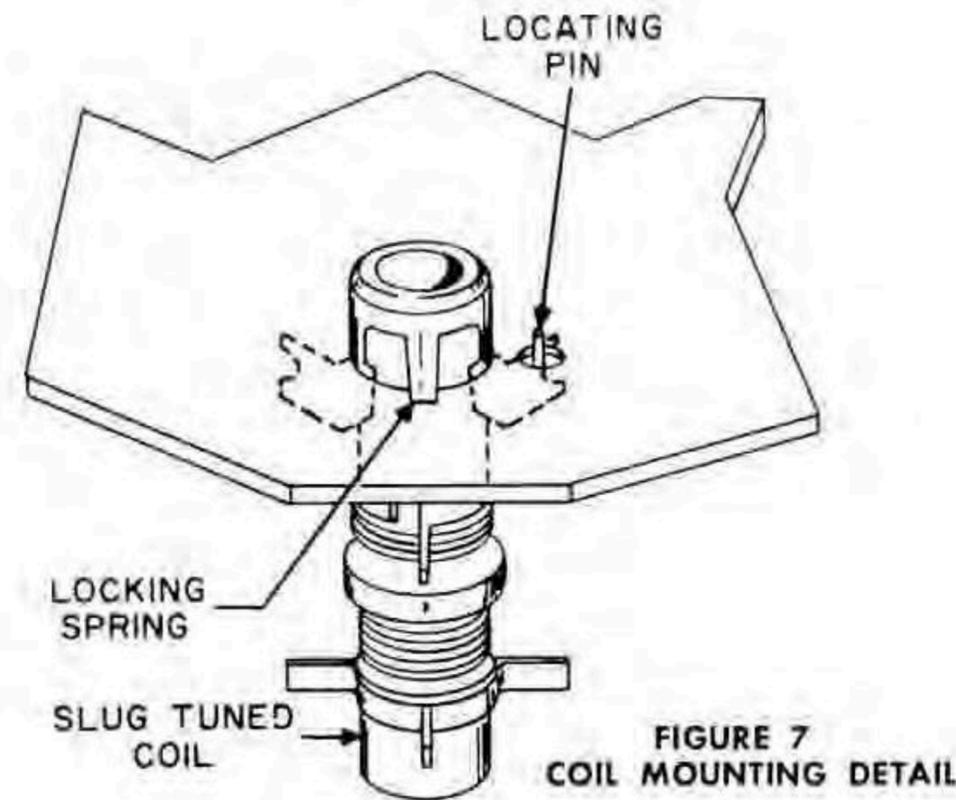

FIGURE 7
- ✓ L-5, the yellow dot coil. Mount from inside the chassis, as shown in Figure 7. Be sure the locating pin is correctly positioned before pushing the locking spring through the chassis.